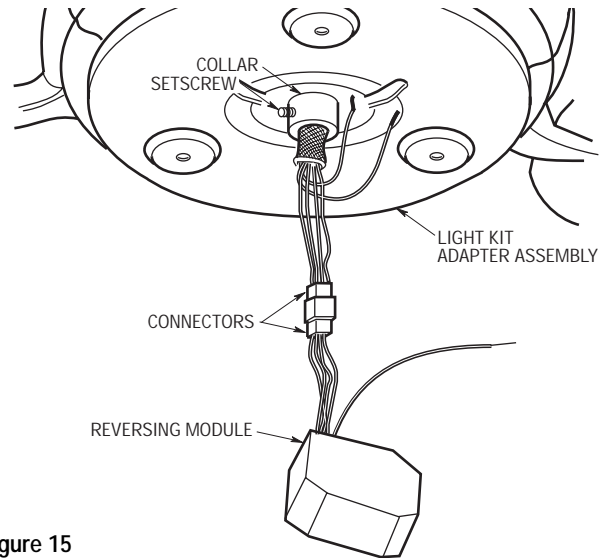

Figure 15
4. Using the 5/64" hex wrench (supplied), loosen the setscrew in the collar on the light kit adapter assembly. Then pass the connector and the wires from the motor shaft through the collar (Figure 15). Screw the adapter assembly onto the motor shaft and then tighten the setscrew to secure the adapter assembly to the motor shaft.
5. Engage the connector from the motor shaft with the connector from the reversing module (supplied) (Figure 15).